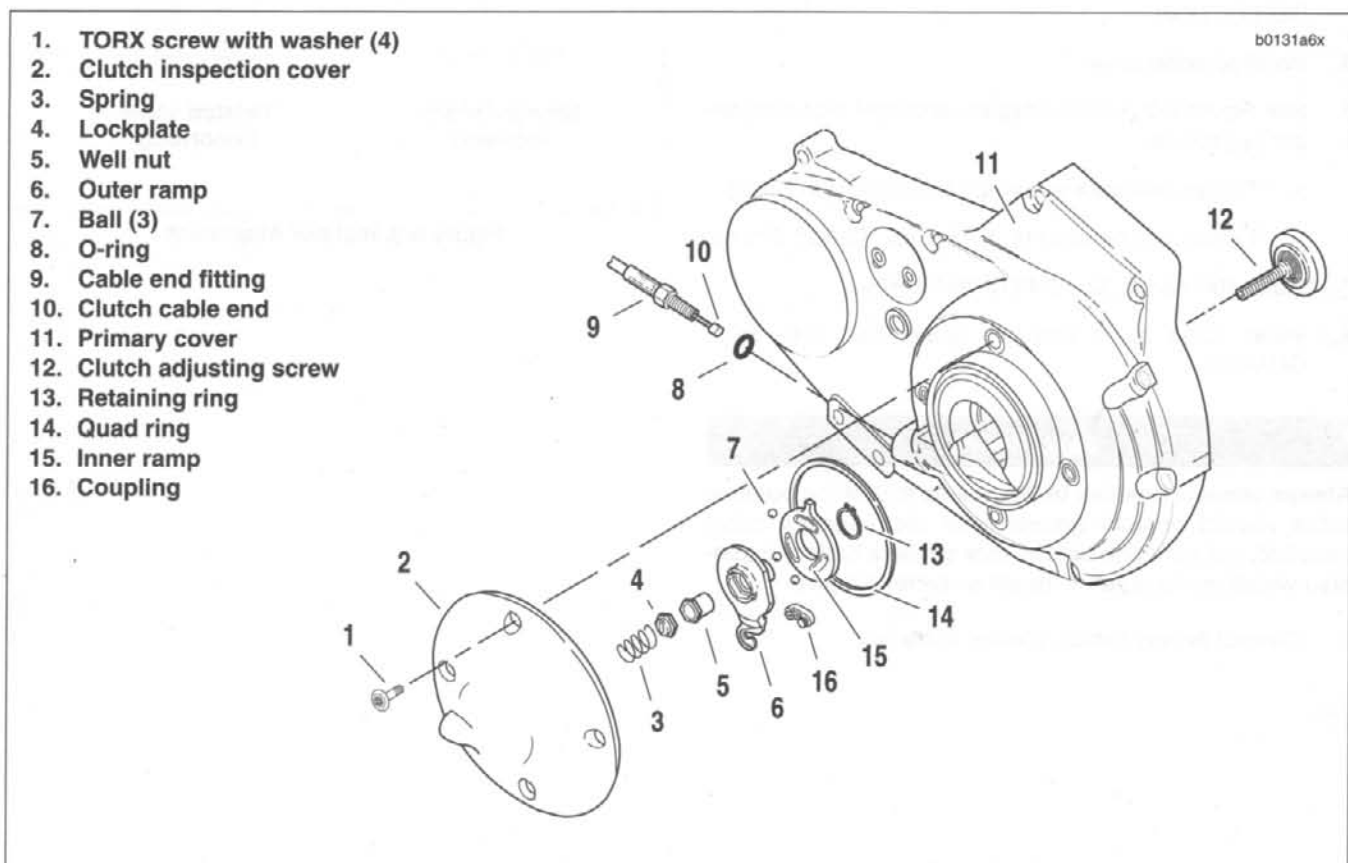

Figure 6-10. Clutch Release Mechanism
2. See Figure 6-10. Remove four TORX screws with washers (1) and clutch inspection cover (2).
3. Slide spring (3) with attached screw lockplate (4) from flats of adjusting screw (12).
4. Turn adjusting screw (12) clockwise to release ramp and coupling mechanism. As the adjusting screw is turned, ramp assembly moves forward. Unscrew nut (5) from end of adjusting screw.
5. Remove hook of ramp from cable end coupling (16). Remove cable end (10) from slot in coupling.
6. Remove and discard retaining ring (13) from ramp assembly to separate inner and outer halves. Remove three balls (7) from ramp sockets.
2. See Figure 6-10. Inspect three balls (7) of release mechanism and ball socket surfaces of inner and outer ramps for wear, pitting, surface breakdown and other damage. Replace parts as necessary.
3. Check hub fit of inner (15) and outer (6) ramps. Replace ramps if excessively worn.